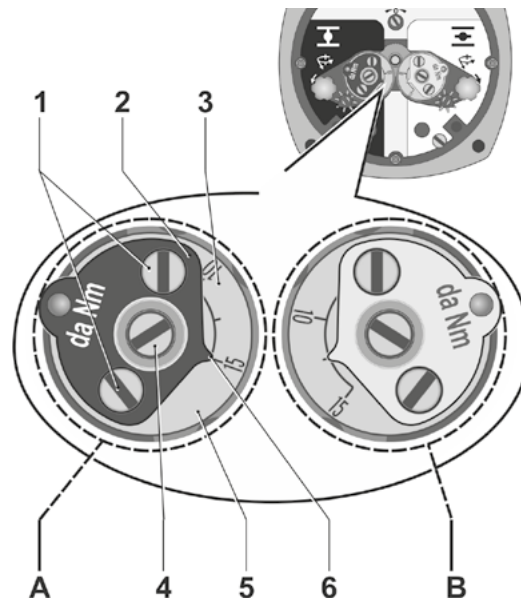

Fig. 3: A = Torque switching head CLOSE
3. Loosen but do not remove both lock screws (item 1) of the left torque switching head (refer to fig. 3, section A).
4. Turn torque dial (fig. 3, item 3) until pointer (6) points to the figure of the required tripping torque. The set figure corresponds to 10 times the tripping torque (15 ± 150 Nm) and adjustment between two figures will have an impact on the tripping torque setting.
- The pointer (6) of the black torque dial (2) points to 15; this corresponds to a tripping torque of approx. 150 Nm.
- The pointer of the white torque dial (refer to fig. 3 section B) points to the middle between 10 and 15: This corresponds to a tripping torque of approx. 125 Nm.
5. Tighten lock screws (fig. 3, item 1) again; Tightening torque: 0.3 – 0.4 Nm.